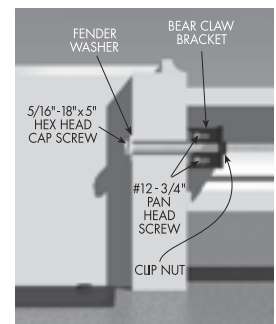

FIGURE 4D
D) Position the BALUSTER BOTTOM RAIL between the NEWEL POST BOTTOM SECTIONS and align the 5/16" - 18 x 5" HEX HEAD CAP SCREWS with the BEAR CLAW BRACKETS (Fig. 4D). Be sure to check that the BALUSTER BOTTOM RAIL is level. Tighten 5/16"-18 x 5" HEX HEAD CAP SCREWS to 75 in./lbs. torque. Repeat Step 4 around the entire balustrade layout.